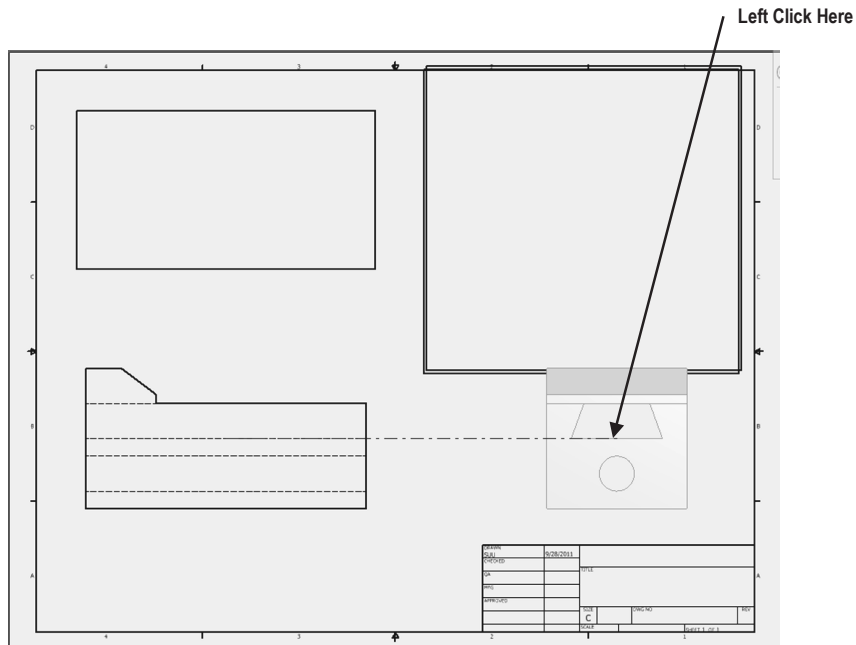

Figure 21
26. Move the cursor down to where the side view will be located and left click once as shown in Figure 21.